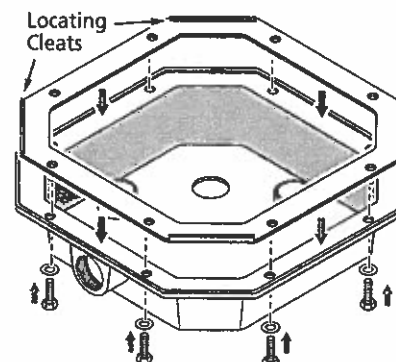

Figure 5
Step 6 (See Figure 5)
Step 7 (See Figure 5)